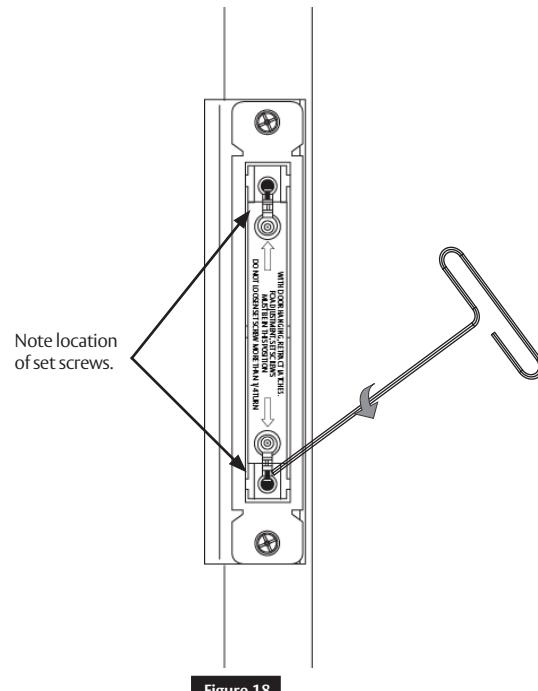

Figure 18
- Using the supplied 1/8" Allen wrench, loosen the set screw 1/4 turn maximum. This allows hex rods to rotate during the latch bolt adjustment. (Figure 18)